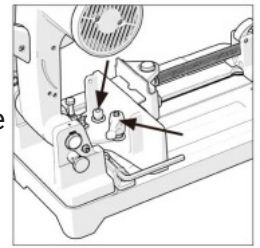

Fig. 8
- Loosen M10 socket head cap screws and lever handle lock screws. (Fig.8)